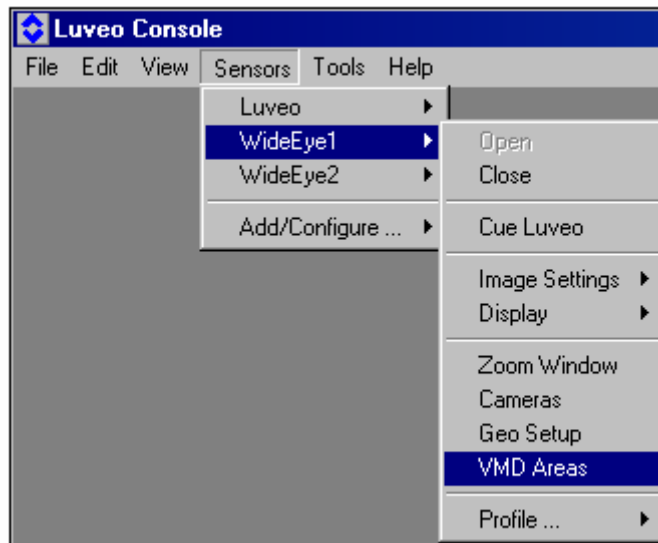

Figure 23 – VMD Areas
Step2. From the Luveo Console, select **Sensors, WideEye, VMD Areas**, or right click on ThermoVision WideEye window, select **VMD Areas**. See Figure 23 – VMD Areas